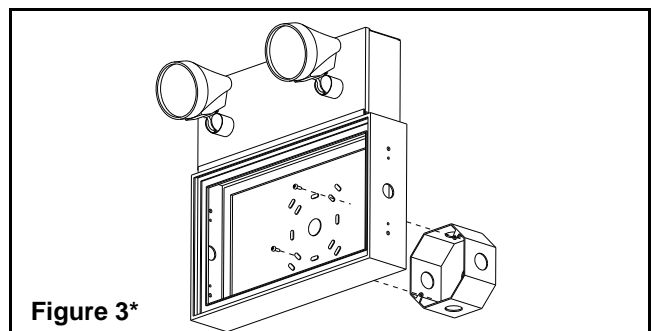

Figure 3*
- c. Mount the unit securely to the junction box using the junction box screws (see figure 3).